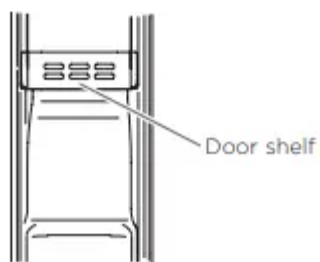

Fig.13 Installation of extra door shelf
- Turning the ice maker off and removing the icebox enables extra space for food storage. Install the additional door shelf at the position above the inlet on the freezer door (Fig. 13).